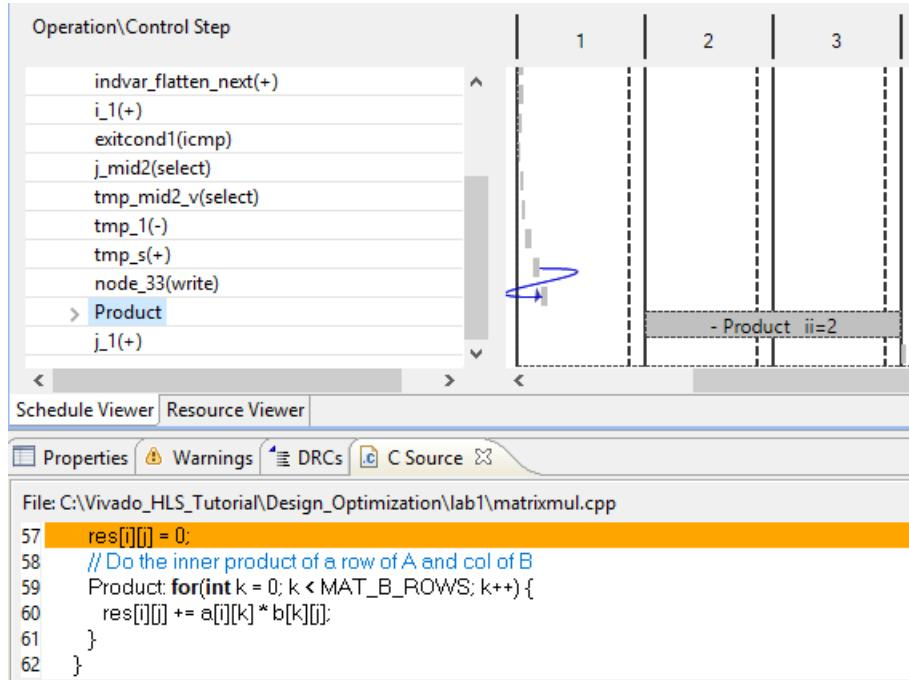

Figure 7-7: Matrixmul Initial Performance View
9. Right-click and select **Goto Source** to see the view in Figure 7-7.